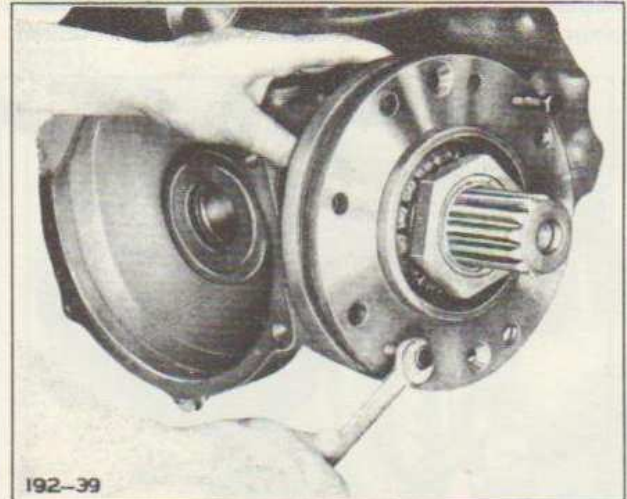

Fig. 32—Removing Pinion Gear Bearing Retainer
Remove the two countersunk screws (28) from the flange of pinion gear retainer (29). Insert two long  $\frac{3}{8}$ " puller screws into retainer and remove assembly by applying pressure evenly to screws. (See Figure 32). Wire shims (30) together.